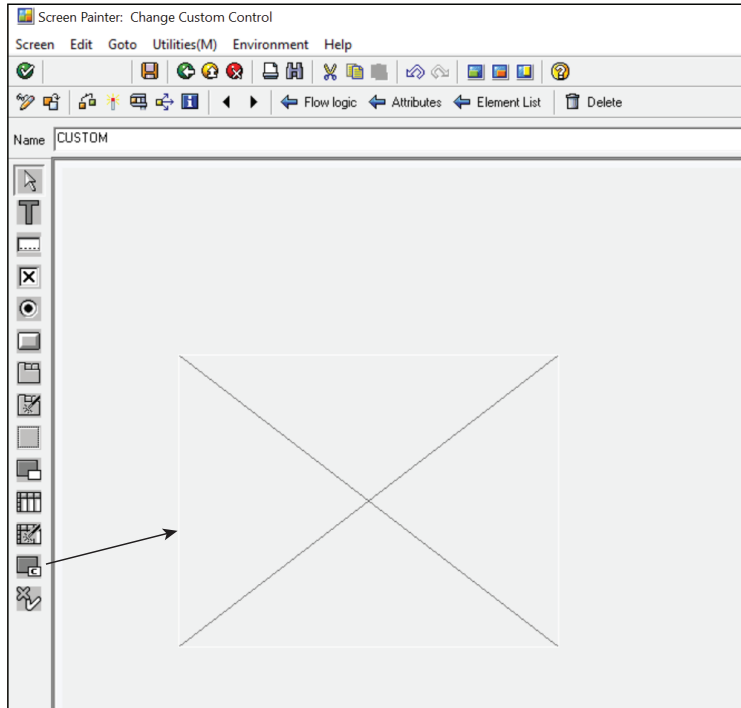

Figure 12.48 Custom Container
1. Create a custom container in the work area of the graphical layout editor by selecting the CUSTOM CONTROL button from the element palette and dragging it to the work area, as shown in Figure 12.48. Provide a name for this container. In our example, the container name is CUSTOM.